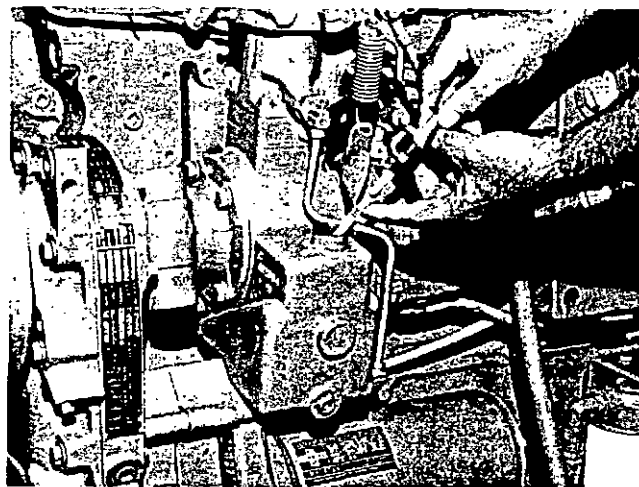

Fig. 2-18, N11826. Checking hydraulic governor oil level
2. Oil level in governor sump must be at full mark on dipstick. Fig. 2-18.